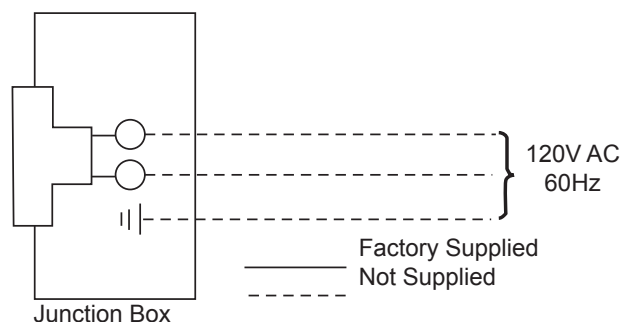

Figure 20. Junction Box Wiring Diagram
3. The junction box cover has a factory installed “romex” style strain relief connector. After connecting the wires, route the wire leads through this connector. Refer to the wiring diagram in Figure 20